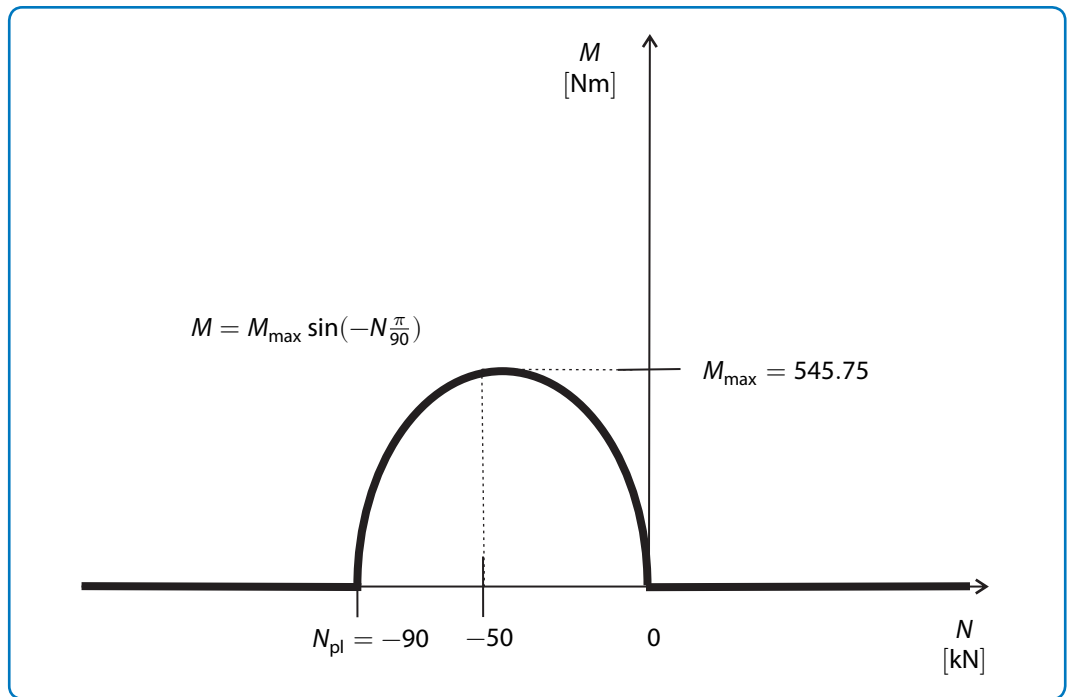
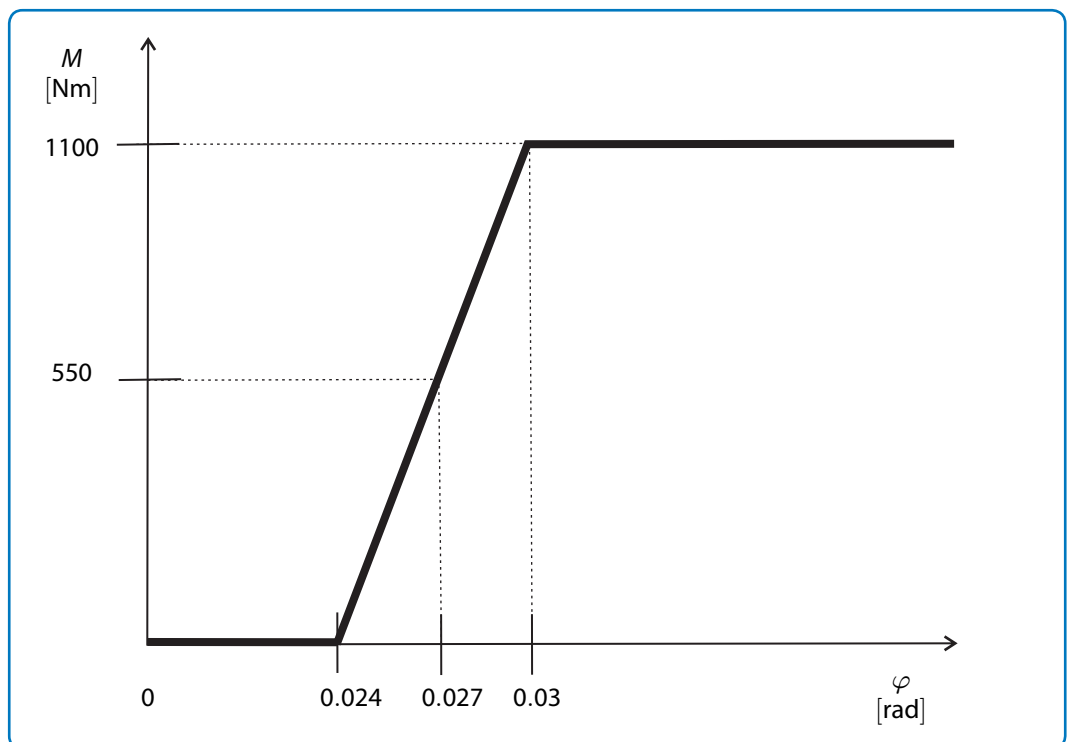

Figure 2: Scaffolding tube connection - outer tube, Moment - Force diagram
Figure 3: Scaffolding tube connection - inner tube, Moment - Angle diagram
The scaffolding tube connection is given by parallel combination of inter and outer tube. The behaviour of each tube is given quantitatively by a separate diagram. The Moment - Force diagram **Figure 2** is used for the outer tube and the Moment - Angle diagram **Figure 3** is used for the inner tube. For further inquiry see [1].
The case of the lowest moment magnitude $M = 530 \text{ Nm}$ represent the most elementary scenario. The outer tube is strong enough to support the loading all alone. According to **Figure 2**, we have the following observation.
as given by **Figure 3**.
This fact can be interpreted as a failure of outer tube. The rest of the loading $M_{1y} - M_{\max}$ must be carried by the inner tube. Reading the values from both **Figure 3** yields the result.
In case of moment magnitude $M = 1650 \text{ Nm}$, the hinge structure can not support the loading. Both inner and outer tube have failed according to **Figure 2** and **Figure 3**.
- Hinge properties are given by diagrams in **Figure 2** and **Figure 3**